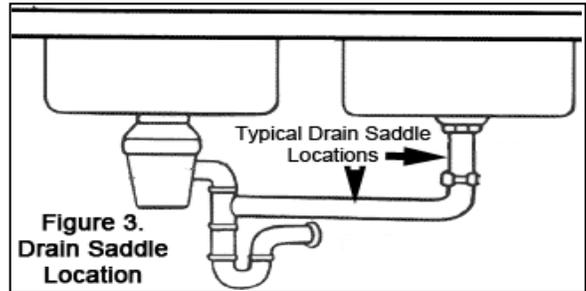

Figure 3.
1. The drain saddle should be installed above the “P” trap and on the vertical or horizontal tailpiece (see figure 3). A horizontal location is ideal, as it is more likely the waste water will be heard if installed on a vertical pipe.